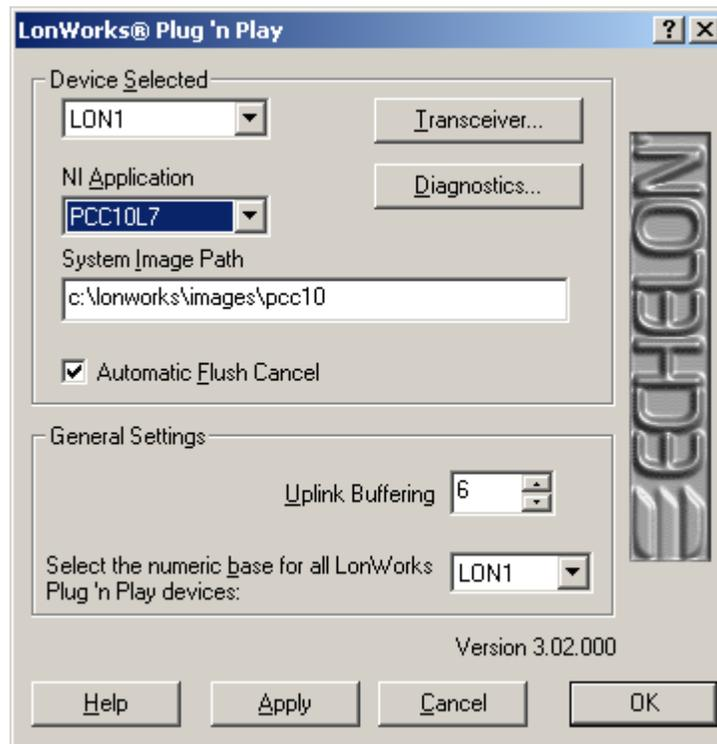

Fig. 22. LONWORKS Plug 'n Play.
- If the PC also has CARE 4.0 loaded, make sure the NI settings in LONWORKS Plug 'n Play are correct for RapidBalance. This program is found by clicking the "Start" menu on the PC and accessing the Control Panel. The program is called LONWORKS Plug 'n Play. Double click on the program, and make sure the NI setting matches the screen in Fig. 22. CARE defaults to a setting of PCC10VNI.